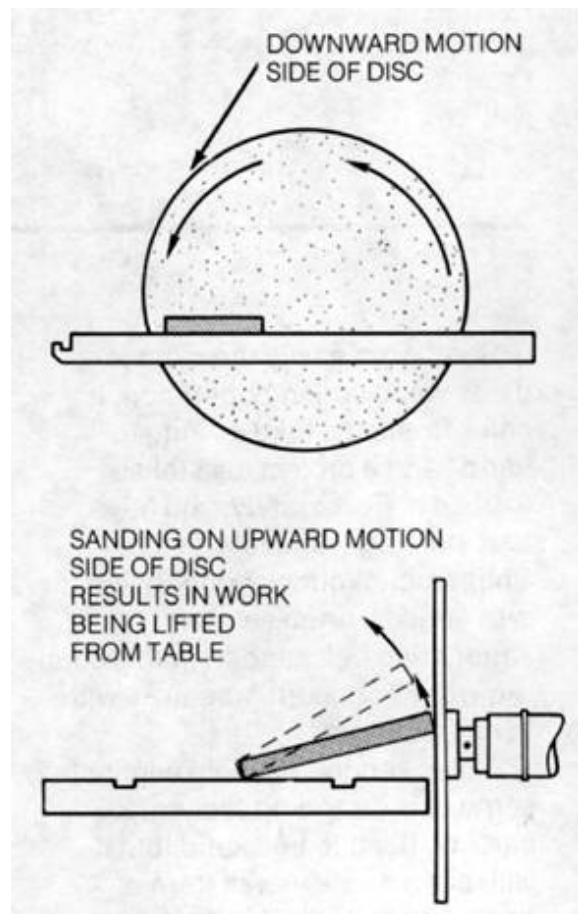

Figure 3. Always work on the downward motion side of the disc.
- Always sand on the downward motion side of the disc (Figure 3). The rotation helps to hold the work piece against the table. If you sand on the upward motion side, the disc will lift the piece off the table and cause a kickback.